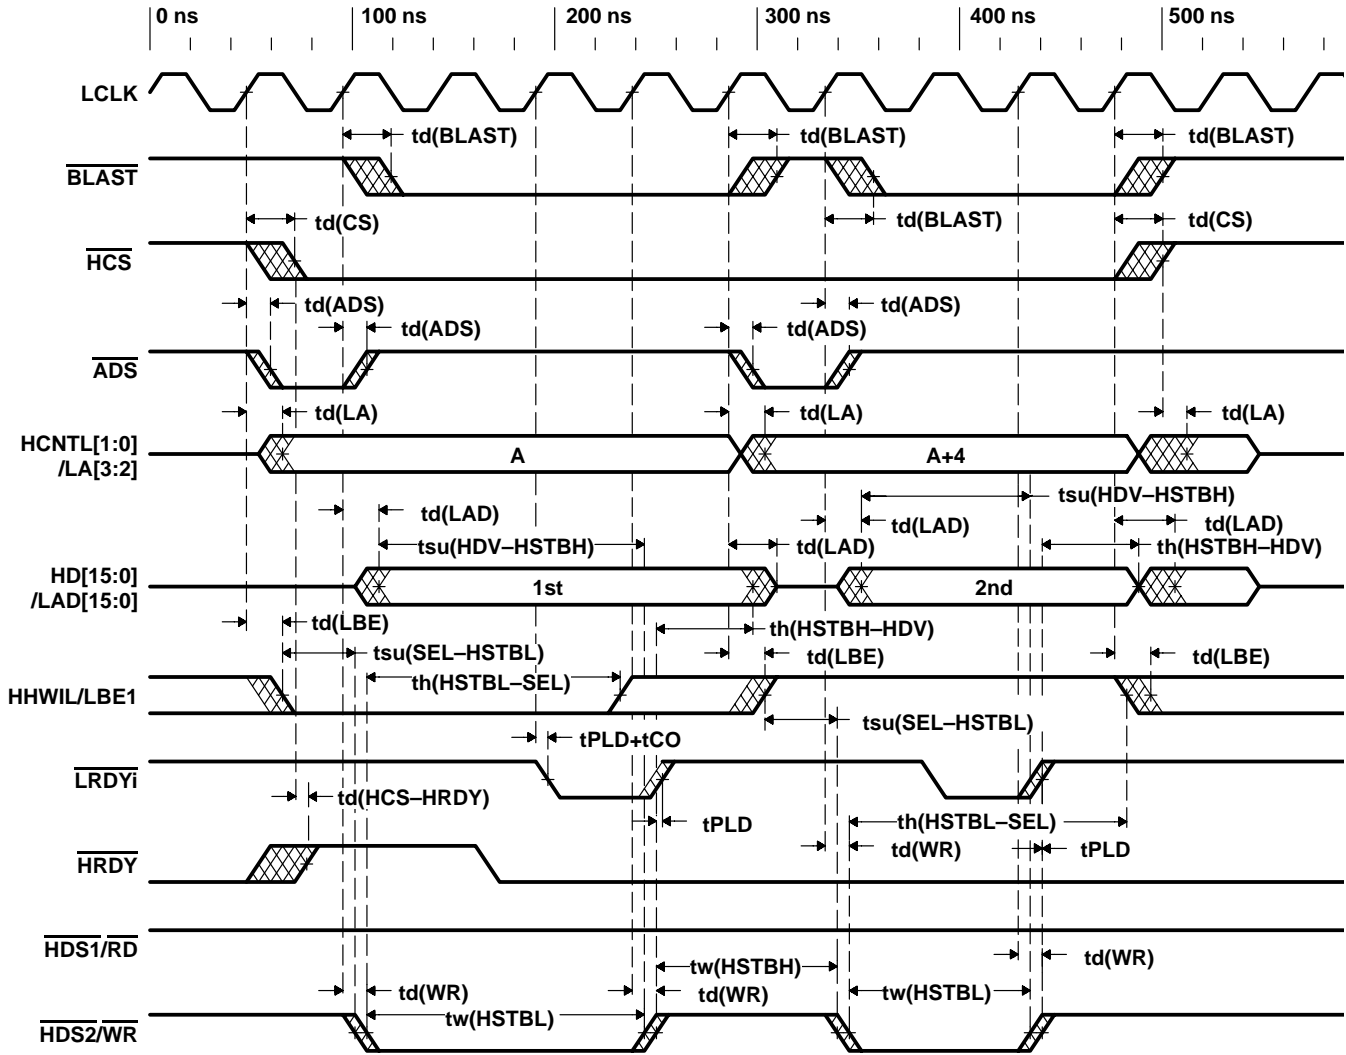
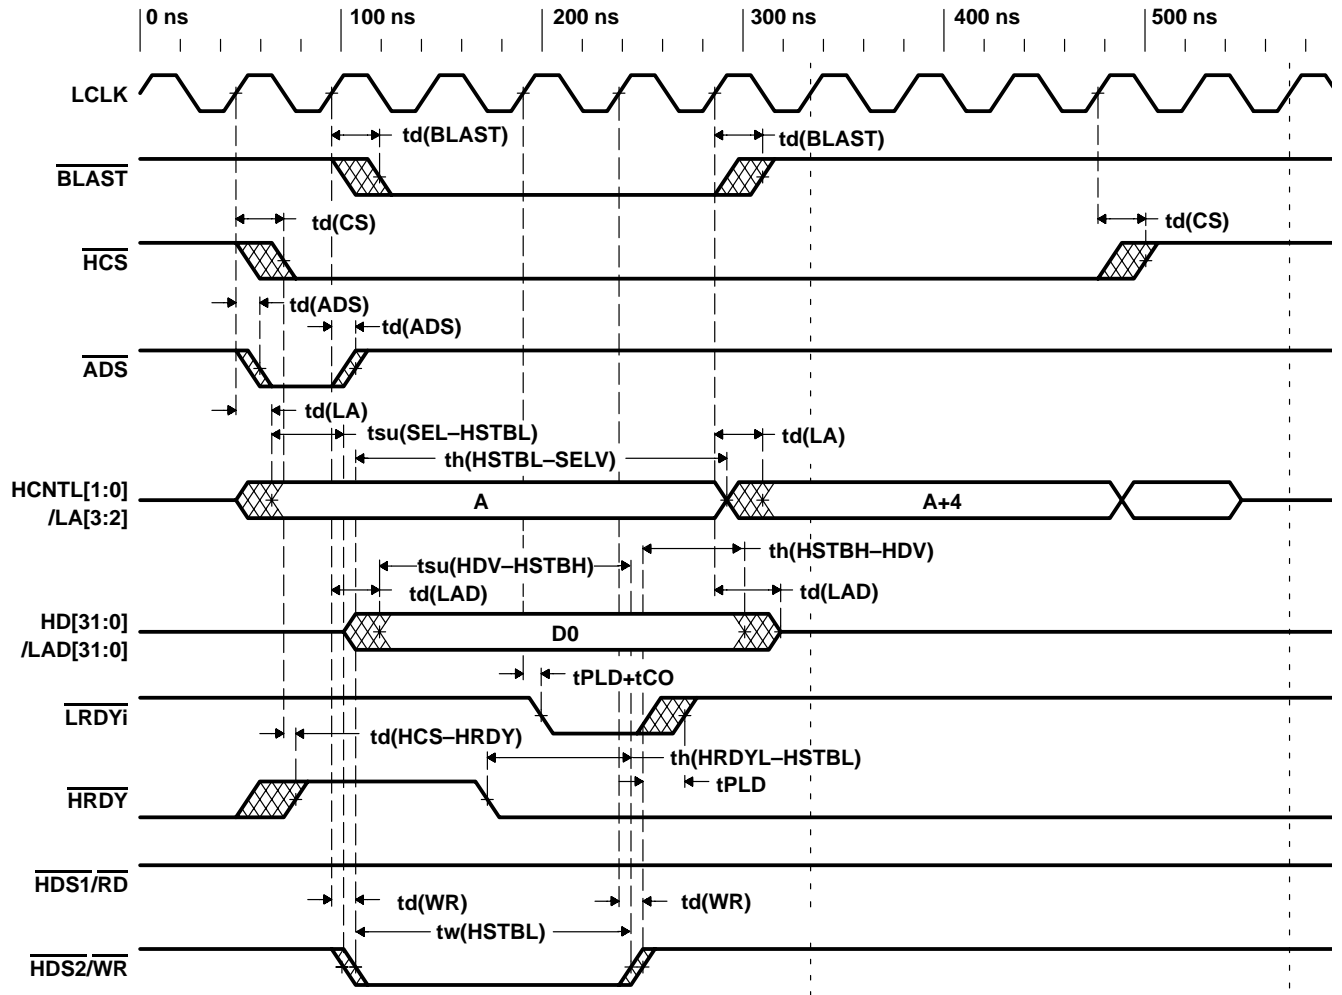

Figure 2. PCI9050 Write to TMS320C6000 DSP Using the HPI (16-Bit)
Figure 3. PCI9050 Write to TMS320C64x DSP Using the HPI (32-Bit)
1. a PCI9050 write to the HPI (Table 2, Figure 2, and Figure 3)